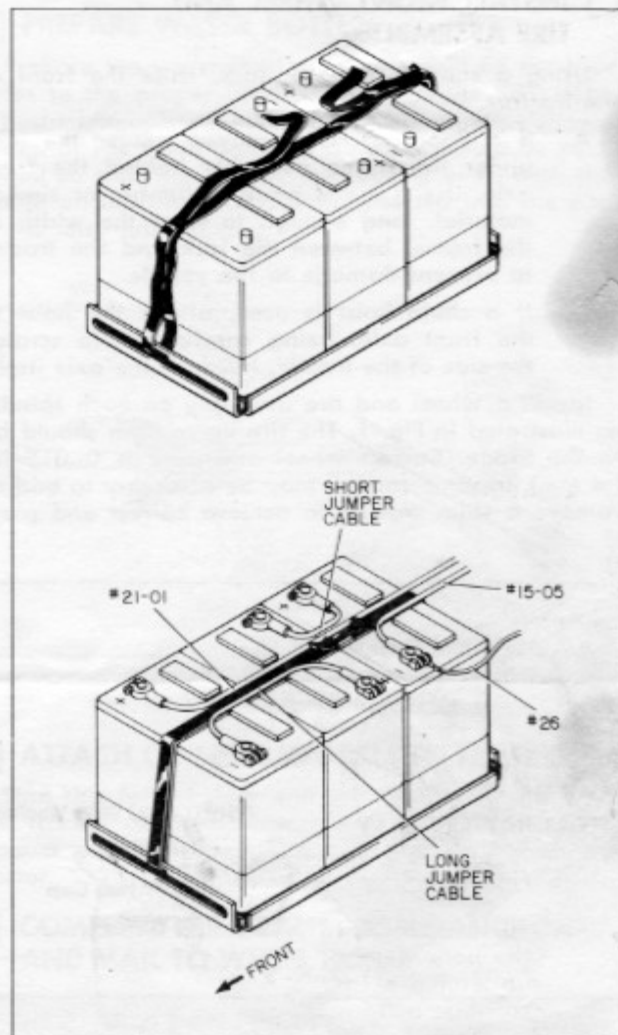

FIG. 2. Battery Installation, Lower Tray
4. Apply a "black-out" decal to each end of three batteries. Place the batteries in the battery tray as shown in Fig. 2.
5. Cut off a 7 ft. (213 cm) strip of plastic banding material. Route the banding material through the slots in the lower battery tray as shown in Fig. 2.
7. Connect the left side wiring harness battery cable and long jumper cable as shown in Fig. 2. The terminal on wire #26 should be placed under the bolt head of the cable clamp on the negative post of the rear battery.
8. Push the lower battery tray over to the right side of the tractor and connect the right side wiring harness battery cable and a short jumper cable as shown in Fig. 2. Leave the lower battery tray in its present position until after the remaining batteries are installed.